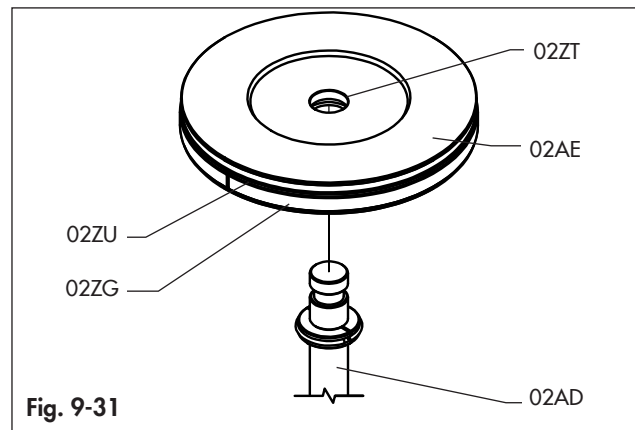

Fig. 9-31
- Keeping the shaft (02AD) in a vertical position, assemble the piston (02AE) by means of proper lifting equipment. The piston must be assembled as shown in Fig. 9-31 with the bearing placed on the longer side of the stem.